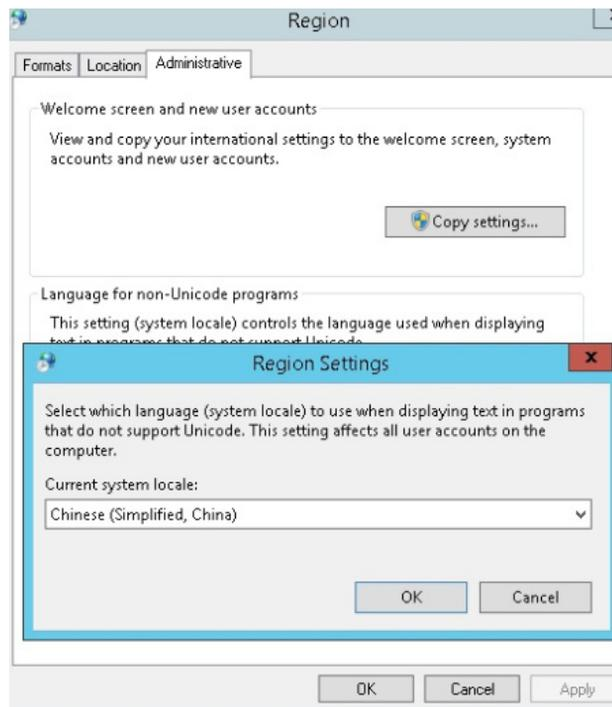

Figure 5. System Locale
5. Click **Ok** and then Click **Restart** now. See Figure 5.